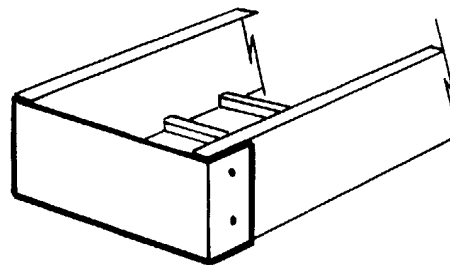

Figure 4.20
4.3.9 End Plates (See Figure 4.20.)